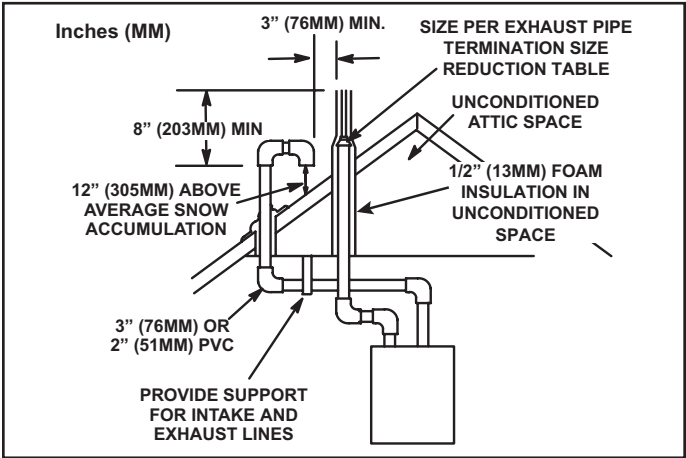

Figure 22. Direct Vent Roof Termination Kit (15F75 or 44J41)
Intake and exhaust pipes may be routed either horizontally through an outside wall or vertically through the roof. In attic or closet installations, vertical termination through the roof is preferred. Figure 22 through Figure 29 show typical terminations.
- 3. On roof terminations, the intake piping should terminate straight down using two 90° elbows (Figure 22).